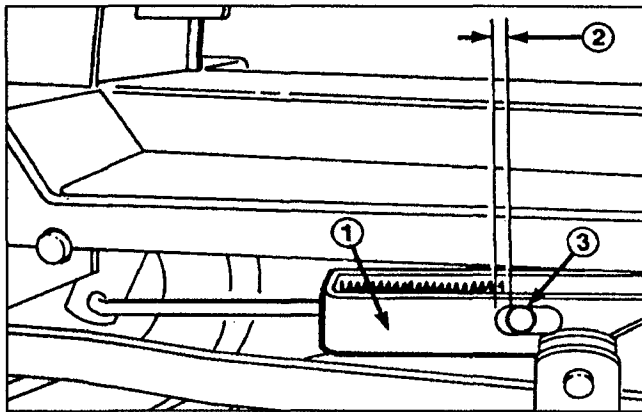

Figure 31
3. Rotate adjustment rod until there is 0.060 inch (1.5 mm) or less between end of slot in engagement bracket and outer diameter of pin (Fig. 31).